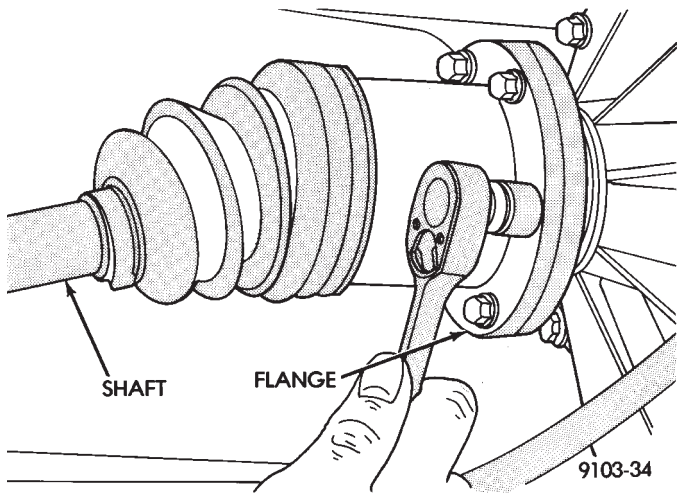

Fig. 2 Inner Half Shaft Bolts
- (1) Remove inner half shaft retaining bolts (Fig. 2).